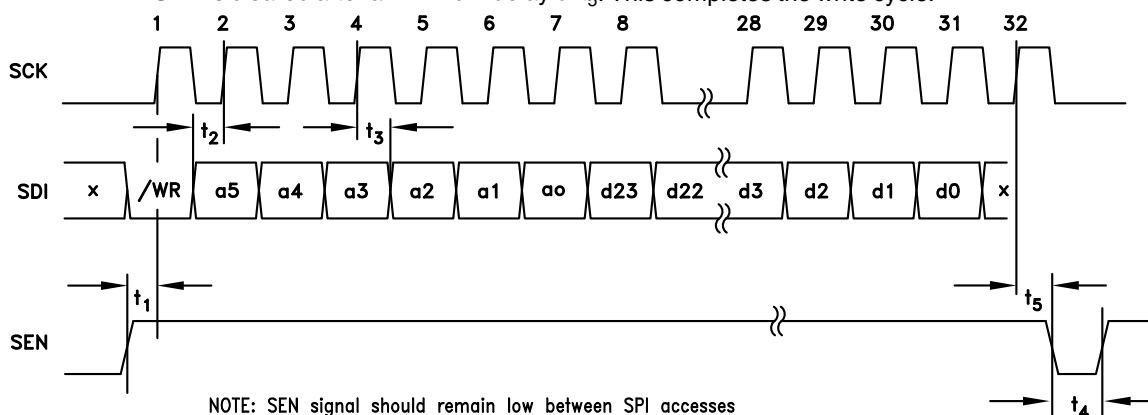
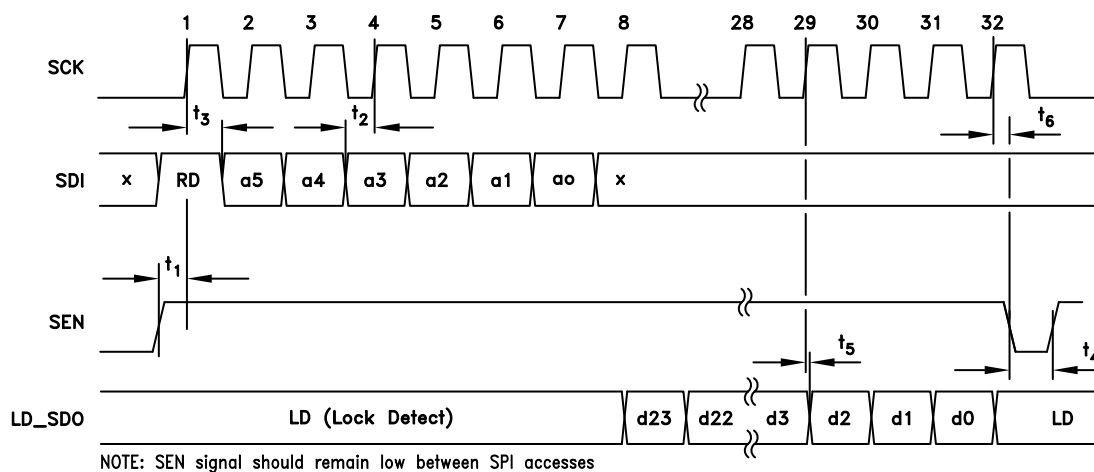

Figure 45. HMC Mode - Serial Port Timing Diagram - WRITE
Figure 46. HMC Mode - Serial Port Timing Diagram - READ
The HMC Mode protocol, shown in figures Figure 45 and Figure 46, is designed for a 4 wire interface with a fixed protocol featuring
A typical HMC Mode WRITE cycle is shown in Figure 45.
A typical HMC Mode READ cycle is shown in Figure 46.
- The Master (host) asserts both SEN (Serial Port Enable) and SDI to indicate a READ cycle, followed by a rising edge SCLK. Note: The Lock Detect (LD) function is usually multiplexed onto the LD_SDO pin. It is suggested that LD only be considered valid when SEN is low. In fact LD will not toggle until the first active data bit toggles on LD_SDO, and will be restored immediately after the trailing edge of the LSB of serial data out as shown in Figure 46.
- The slave (HMC834LP6GE) reads SDI on the 1st rising edge of SCLK after SEN. SDI high initiates the READ cycle (RD)